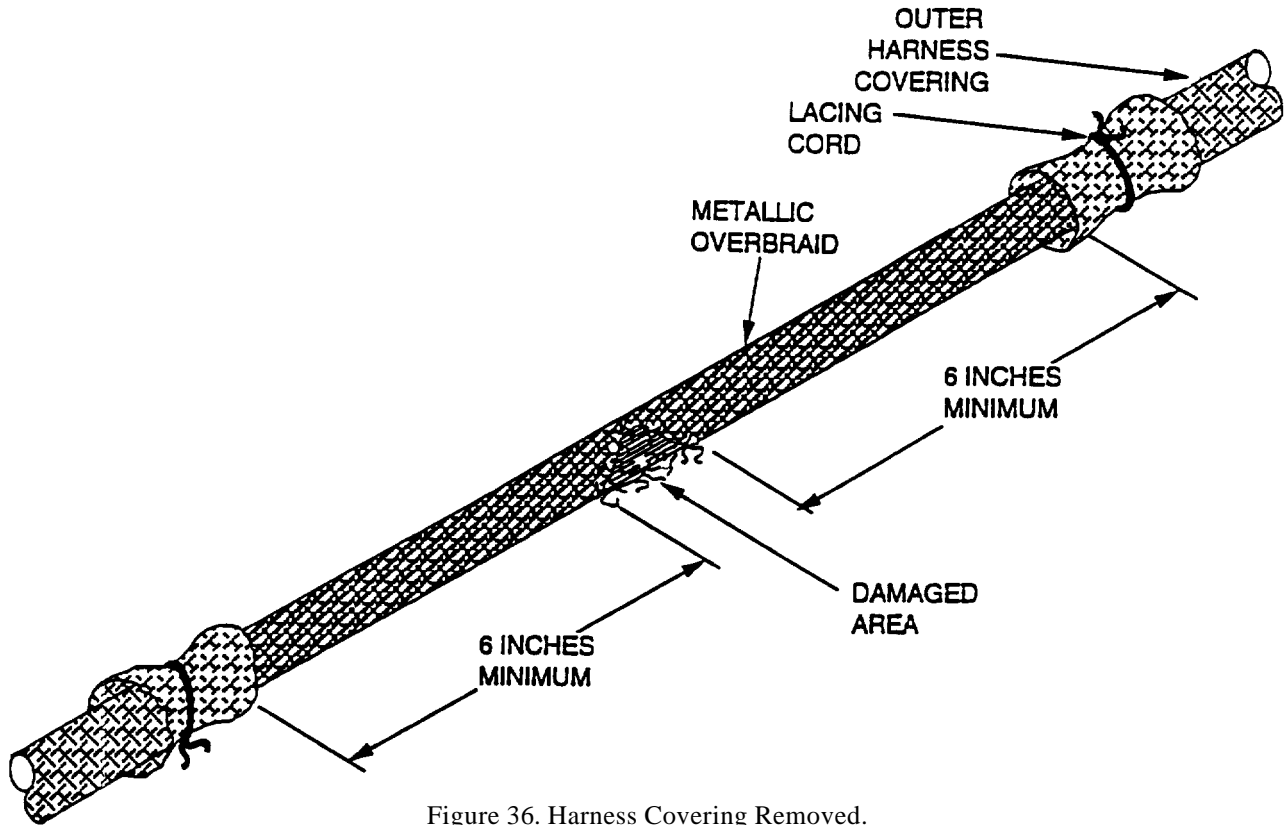

Figure 36. Harness Covering Removed.
a. Using scissors cut completely around outer harness covering, pull back each side at least 6 inches from damage and secure with lacing cord. A minimum of 12 inches is required for repairs (Figure 36).